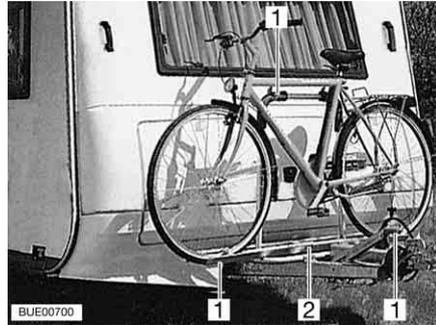

Fig. 11 Front bike rack
- Put the bikes on to the bike rack (Fig. 11,2) and secure them with quick straps (Fig. 11,1).